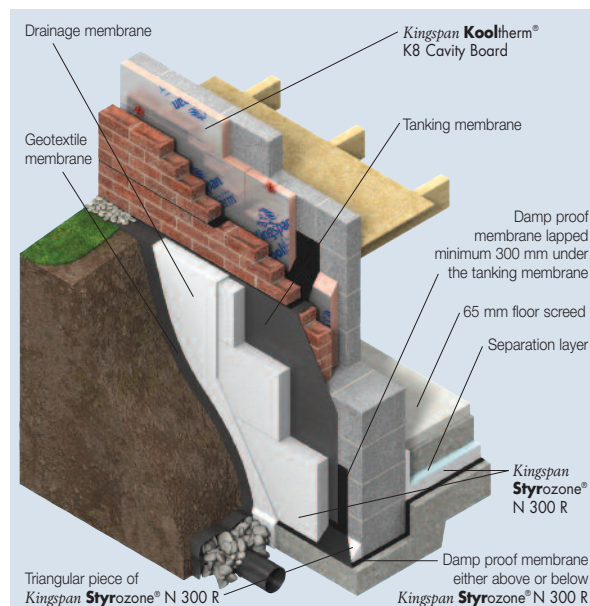

Figure 1
**Tanking System** – A continuous waterproofing membrane surrounding the exterior of the basement structure, preventing ground water from penetrating the basement construction. Available in mastic asphalt tanking, cementitious renders, self-adhesive membranes and liquid applied membranes (see Figure 1 & 2).
- A triangular shaped piece of **Kingspan Styrozone**® should be placed between the concrete slab and the exterior of the basement wall to create a slope (see Figures 1 & 2) and a platform for the basement wall insulation.